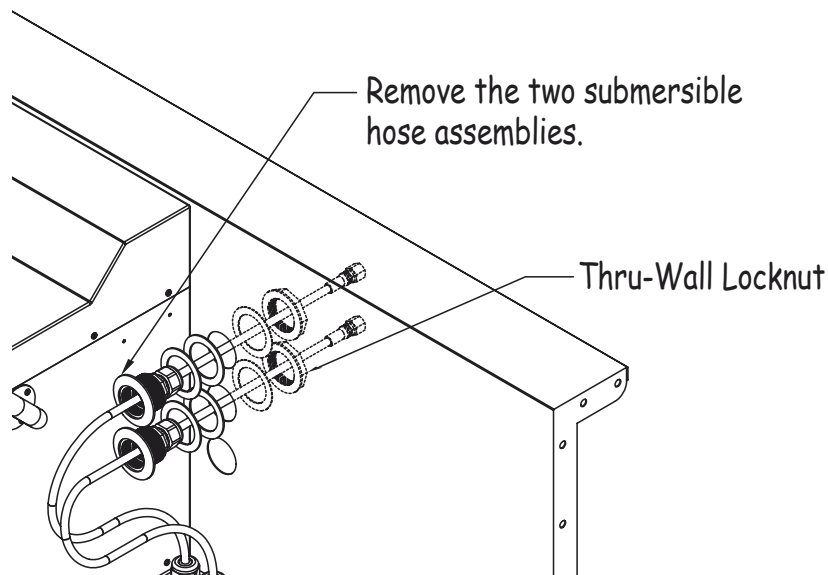

Fig 13
13. If replacing the hydraulic hoses, remove the cord grip fitting lock nuts from the hoses in order to pull the hoses through the two hose cut outs in the propulsion housing base. Disconnect the other ends of the hydraulic hoses from the run hoses (outside the pool) and plug the hoses with the second set of red plugs. Remove the locknuts from each thru-wall fitting (attached to each hydraulic hose) and pull the hoses into the pool through the cutouts in the liner/pool panel (Fig 13).